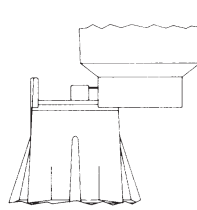

Figure 4
1. (Figure 4) Secure reflector to bottom of ballast housing. Installation is aided by key hole slots in reflector. On VS5 units with safety chains, orient the reflector so that the ballast and reflector holes are on the same side.